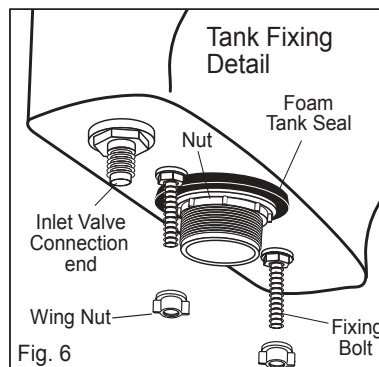

Fig. 6
1. Ensure that the foam seal is fitted onto the tail piece on the underside of the tank as detailed in Fig. 6.